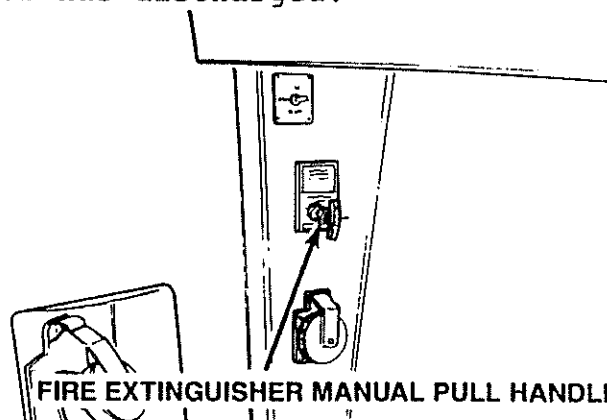

Figure 3-26 Manual Pull Handle for Fire Extinguisher
See Figure 3-26. The extinguisher system can also be manually activated by a pull handle in the cockpit on the starboard forward side. If a fire is detected before the automatic system is activated, the pull handle can be used to activate the system.
5. Open the boat up for natural ventilation. See Figure 3-26. Use the bilge blowers to ventilate the area.